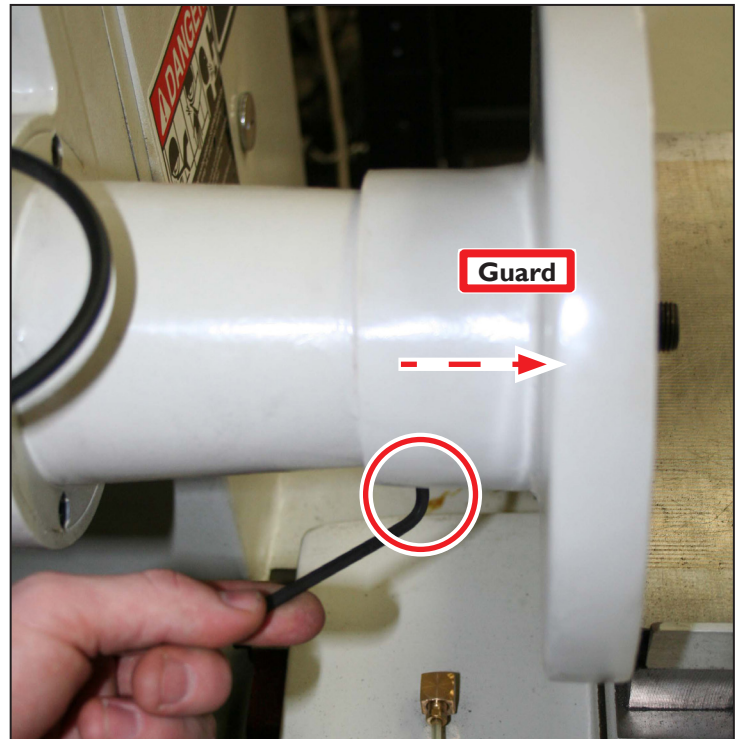

Figure 5
5. Using a 4 mm hex-head wrench, loosen set screw on bottom of wheel guard; remove guard (see **Figure 5**).